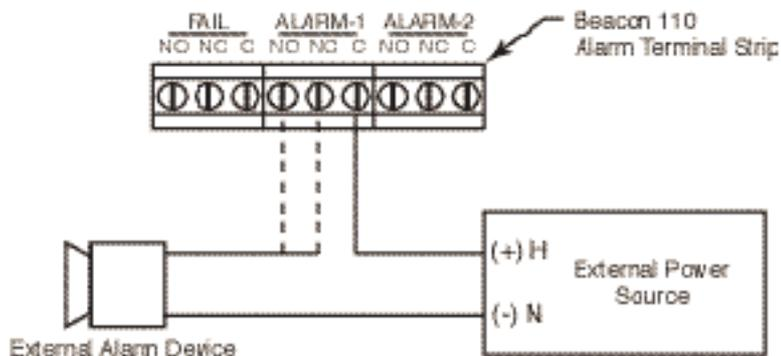

Figure 6 Typical Alarm Device Wiring
6. Connect the leads from the external alarm to the appropriate terminals on the alarm terminal strip as shown in **Figure 1**, **Figure 6**, and **Table 3** to obtain the desired operation.